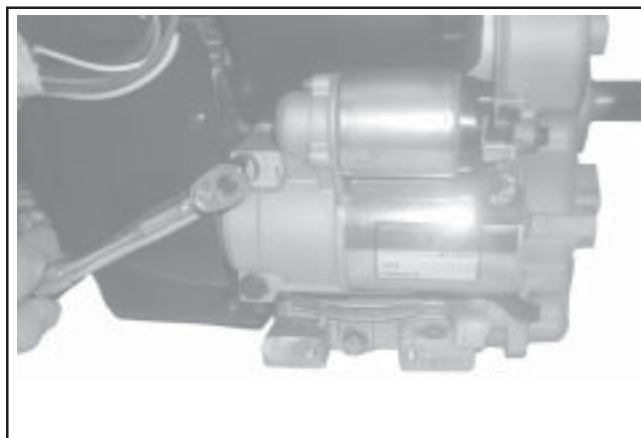

Figure 11-73. Installing Electric Starter Motor.
1. Install the starter motor using the two hex flange screws. See Figure 11-73. Some inertia-drive starters have a pinion cover and spacers on the starter bolts.